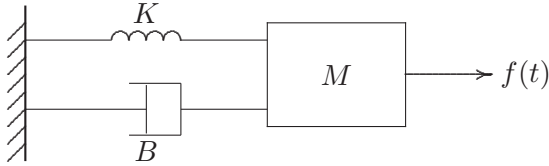

FIGURE 94
11.9. Consider the displacement x for a unit mass supported by a nonlinear spring as shown in Figure 94. The equation of motion is described by